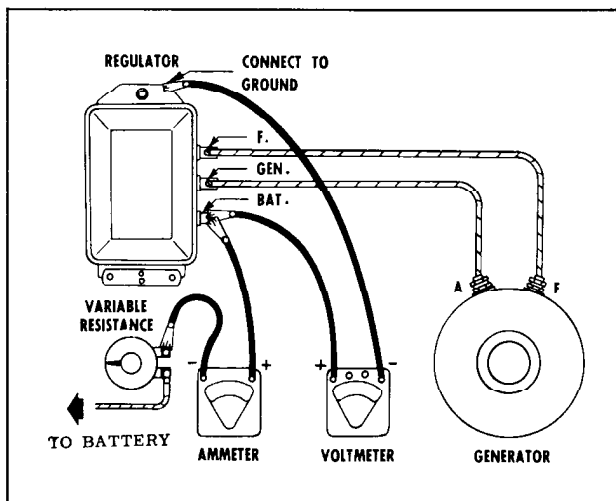

Fig. 13-11 Checking Voltage Setting (35 Ampere)
1. Connect a variable resistance (25 watt capacity) and an ammeter into the charging circuit at "BAT" terminal of regulator as in Fig. 13-11.